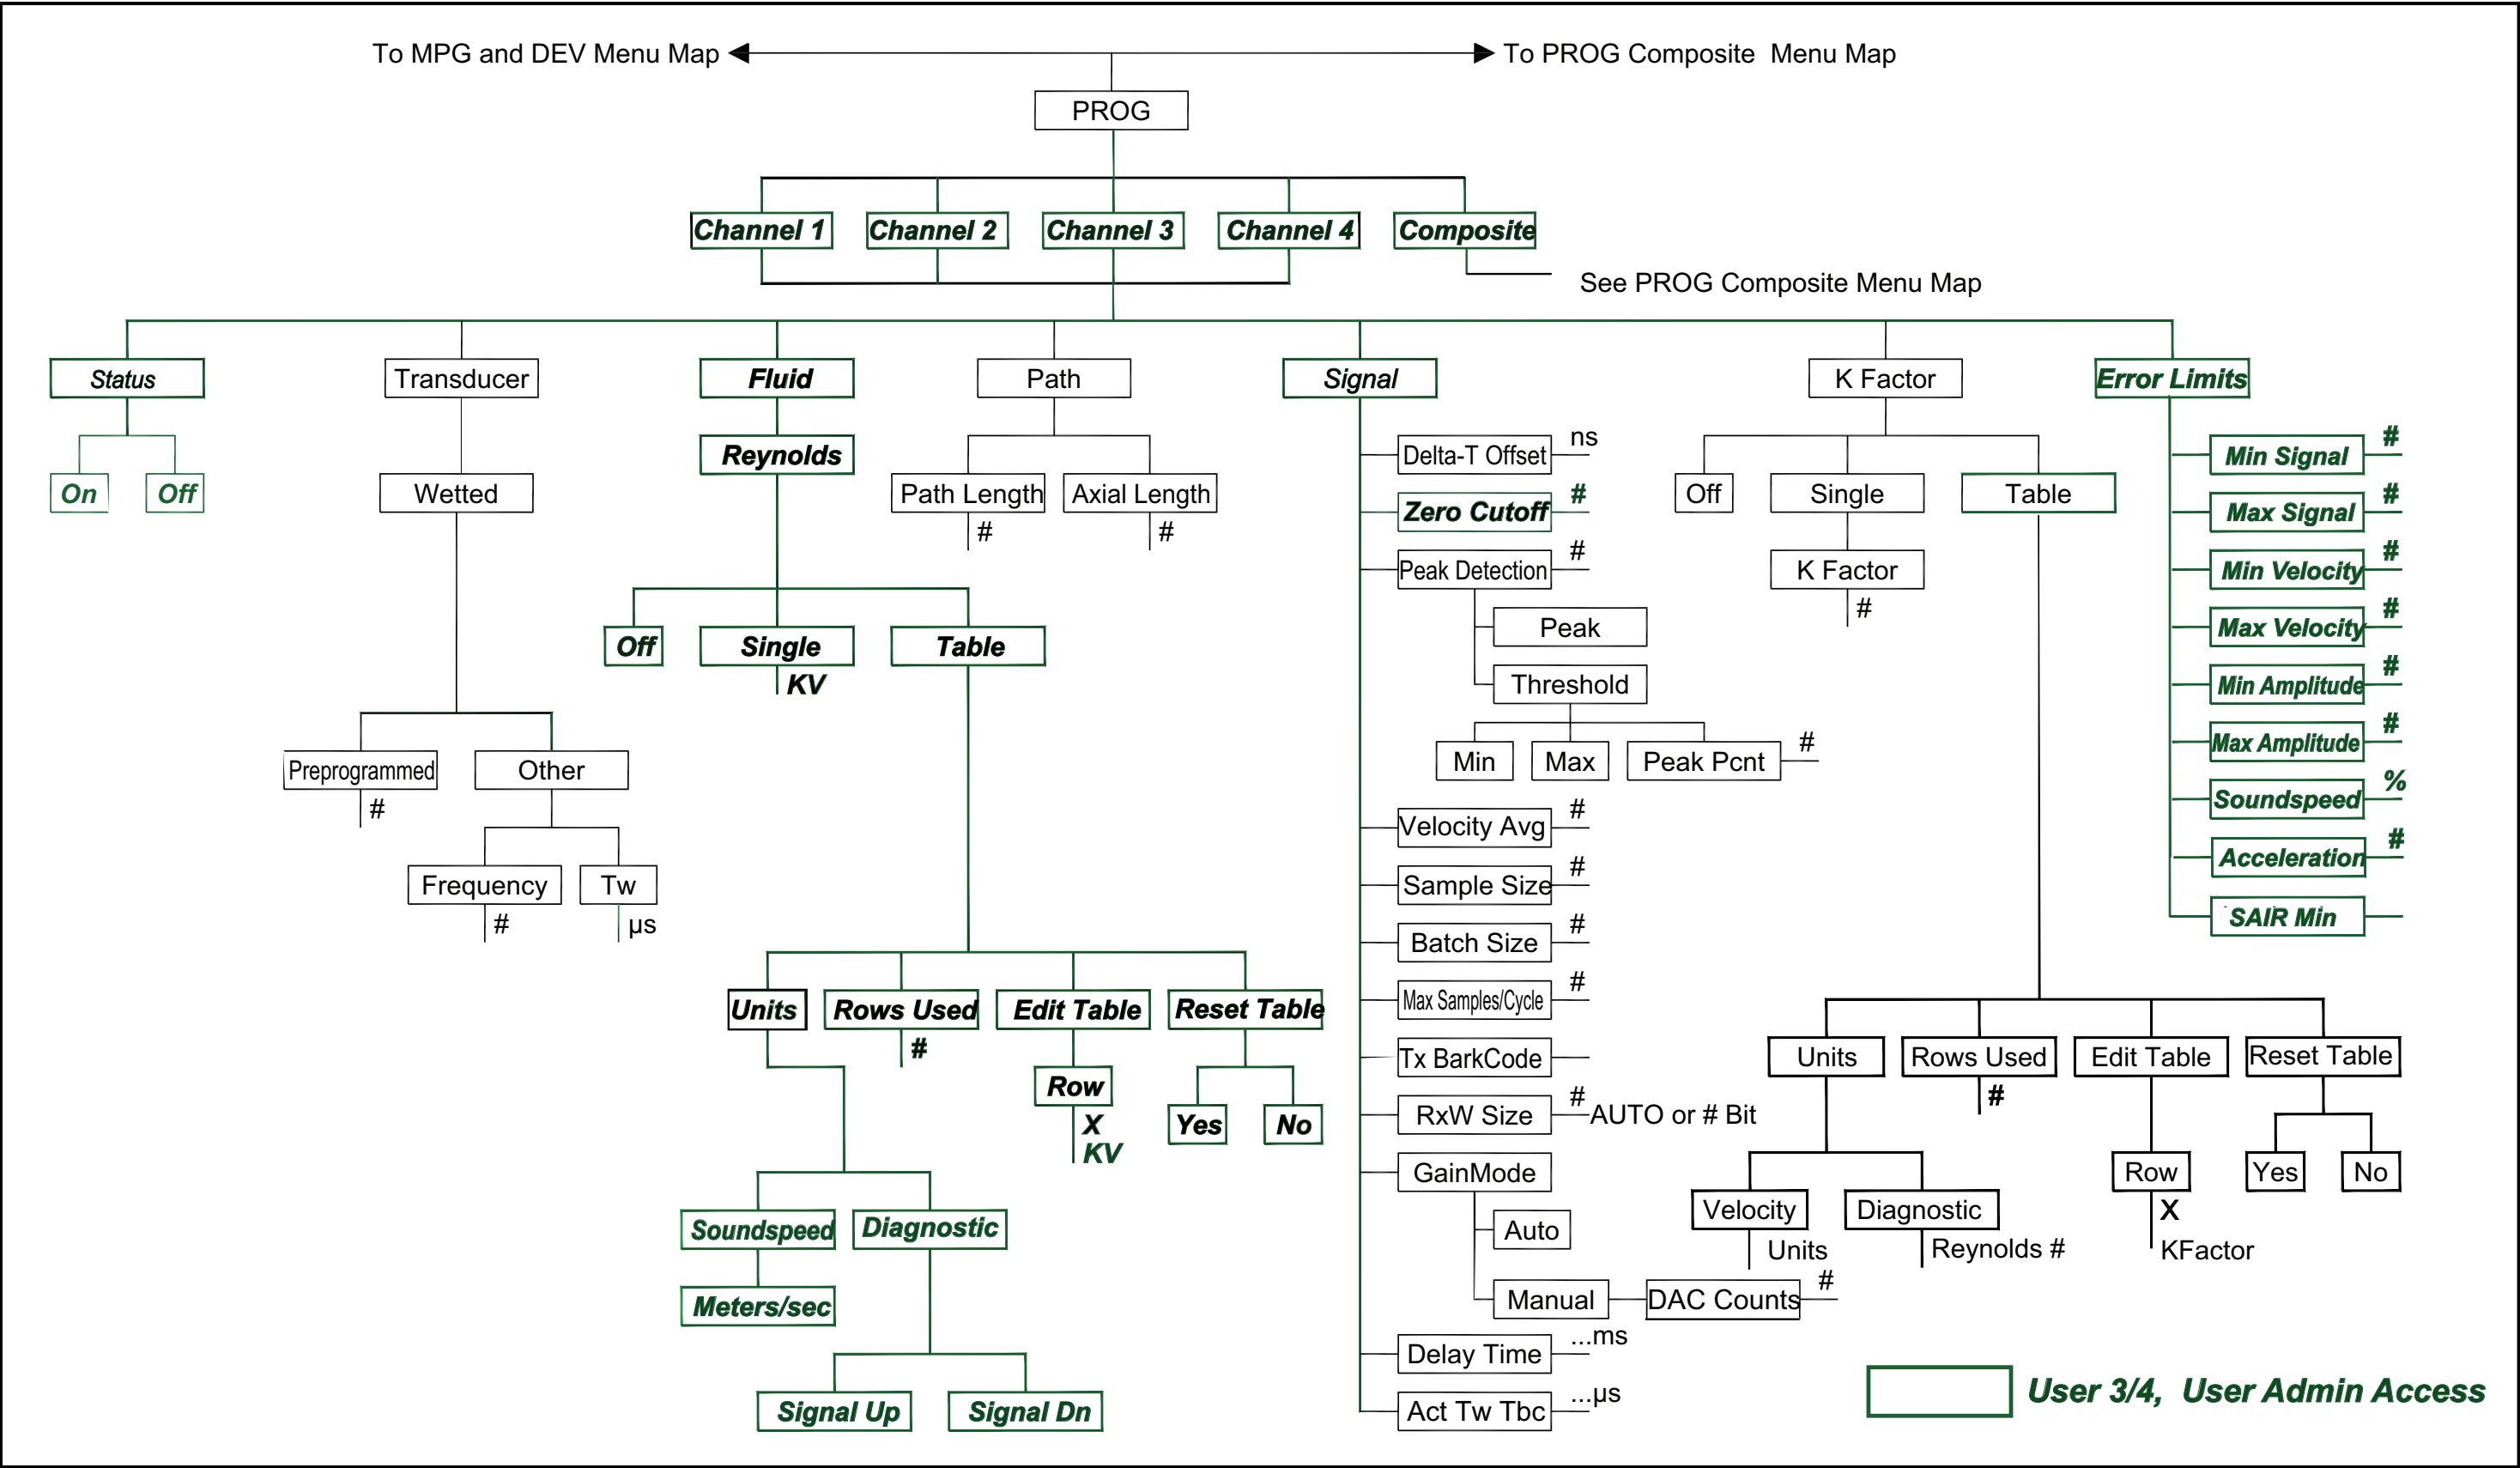

Figure 67: PROG-CHANNEL menu map
- *Figure 67, “PROG-CHANNEL menu map” on page 110*